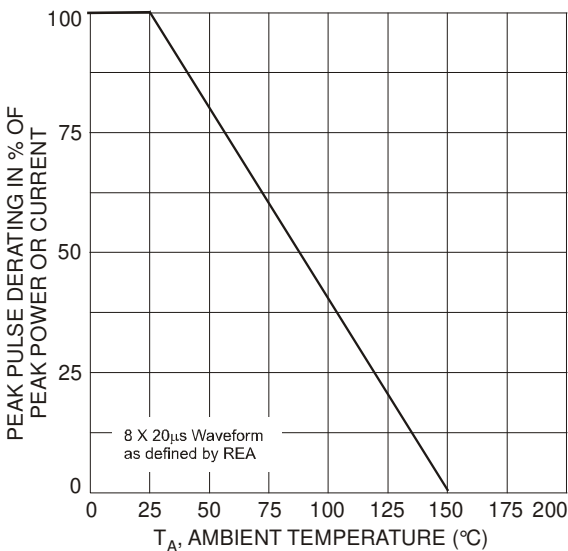

Fig. 1 Pulse Derating Curve
6. Non-Repetitive current pulse as shown in Figure 2 and derated above T_A = +25°C as per Figure 1.
7. Non-Repetitive current pulse as shown in Figure 3 and derated above T_A = +25°C as per Figure 1.